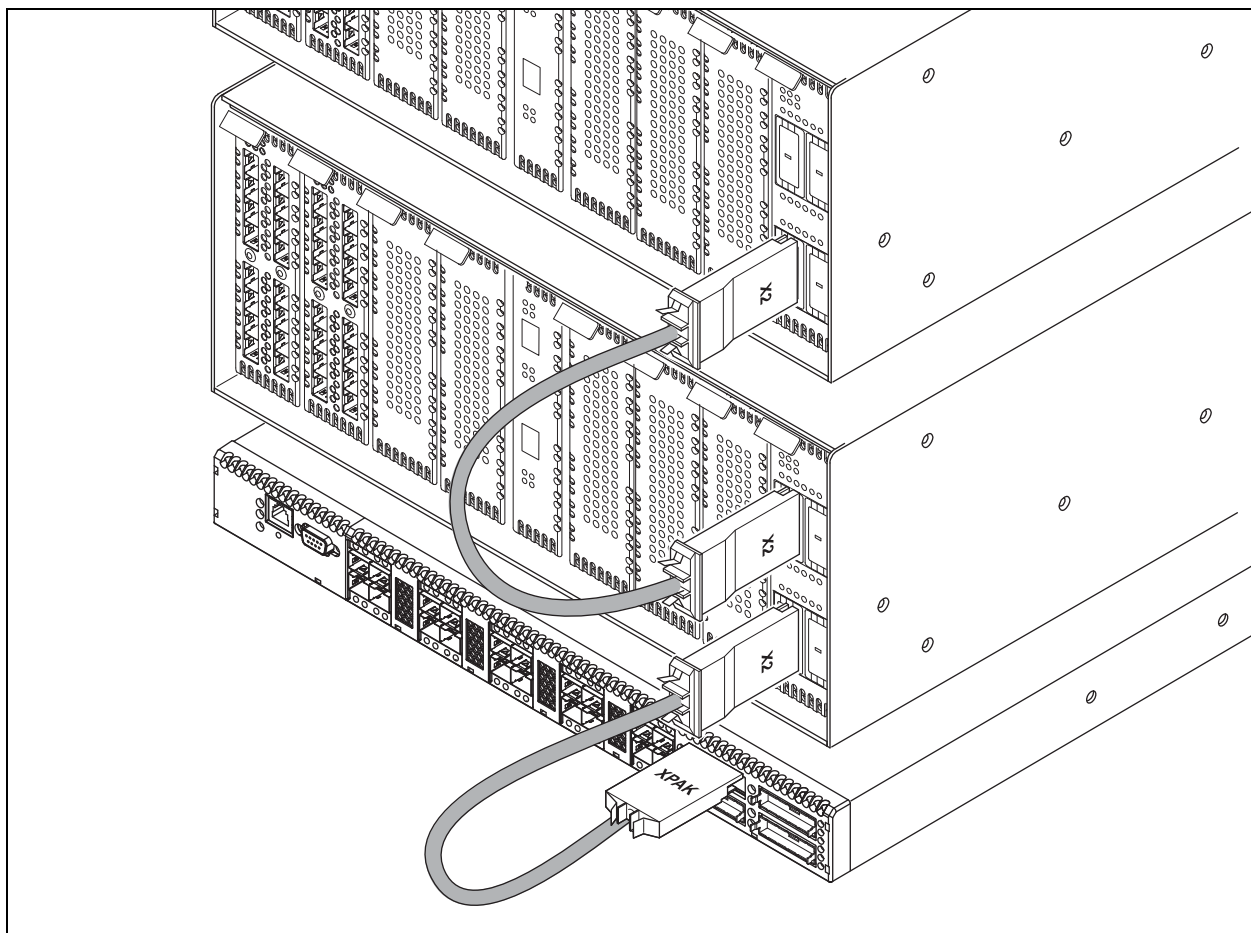

Figure 3-4 Installing Stacking Cables
10-Gbps stacking cables are available to connect two QLogic 9000 Series switches or a QLogic 9000 Series switch and a QLogic 5000 Series switch as shown in Figure 3-4.
- To connect two QLogic 9000 Series switches, use an X2-X2 cable. Install the cable connectors in the respective switch ports with the circuit boards on the left. The cable connector will fit only one way as shown in Figure 3-4.